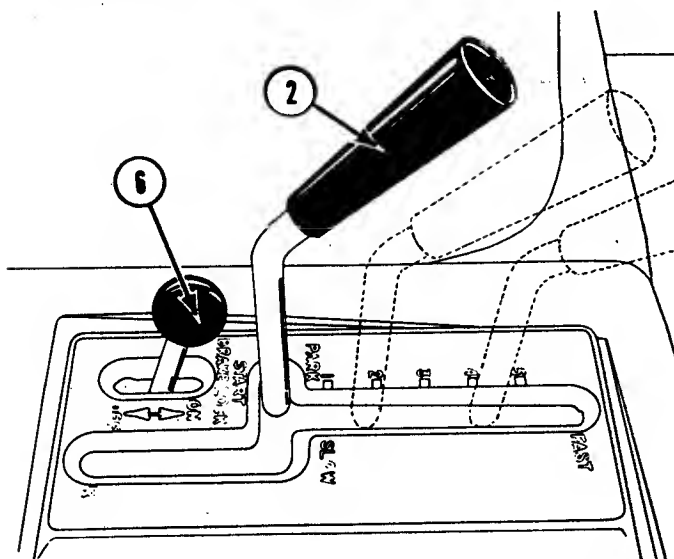
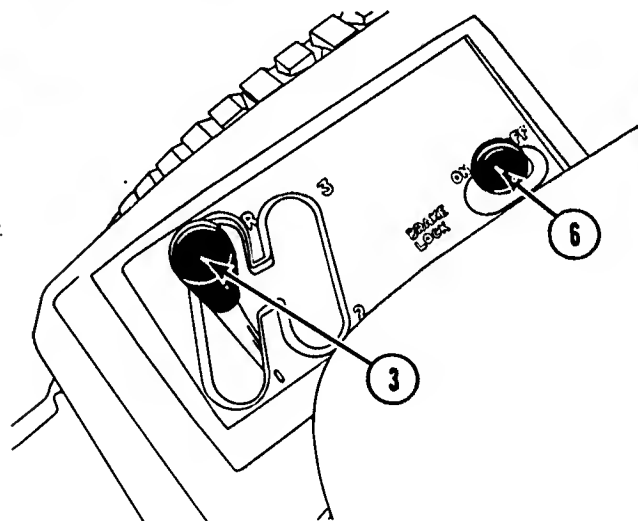

Figure 2
Figure 3
- 2 HYDROSTATIC CONTROL LEVER (Hydrostatic Models – Figure 2)**
- 3 GEAR SHIFT LEVER – (Gear Shift Models) – Figure 3.**
**THE GEAR SHIFT LEVER MUST BE IN THE FORWARD NEUTRAL POSITION AS SHOWN IN FIGURE 3 TO START THE ENGINE.**
## **BRAKE LOCK – Figures 2 and 3**
To lock the brake, push the brake lock forward with the foot pedal fully depressed. Then release the foot pedal. Figure 2 shows the brake lock engaged. Figure 3 shows it disengaged.
2. **HYDROSTATIC MODELS.** Place hydrostatic control lever **2** in the "park-start" position as shown in Figure 2.
3. **GEAR SHIFT MODELS.** Place gear shift lever **3** in the forward (neutral) position as shown in Figure 3.